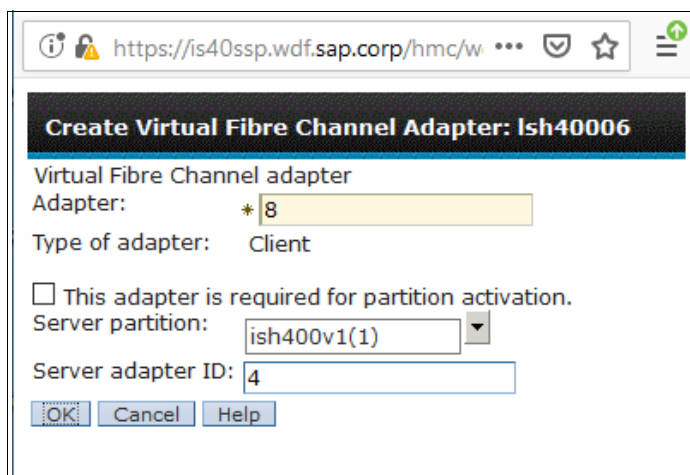

Figure 2-12 Adding a server adapter ID
- c. Enter the virtual slot number for the virtual FC client adapter. Then, select the VIOS partition to which the adapter can be assigned and enter the server adapter ID, as shown in Figure 2-12. Click **OK**.